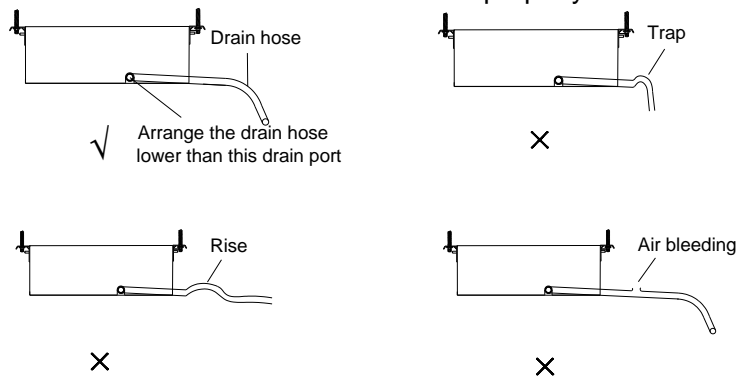

Figure 3-1-8
- (1) Install the drain hose with downward gradient (1/50 to 1/100) and no risers or traps are used for the hose.( Figure 3-1-8)
- (2) Be sure there is no crack or leak on the drain hose to avoid the formation of air pocket.( Figure 3-1-8)